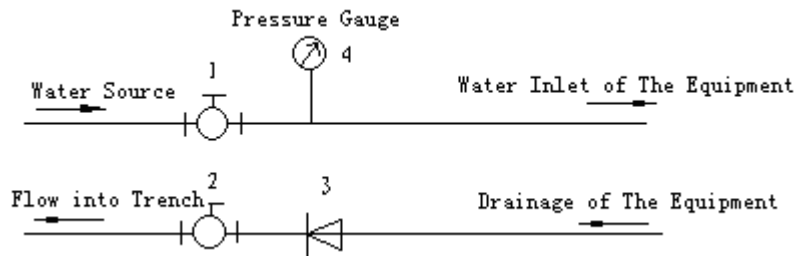

Fig.3
- (1) Put shock pad under the two rotation legs, rotate the support leg after universal wheels leave the ground, put shock pad under the oriented wheel.
- (2) It shall leave some space all around when installing the sterilizer, convenient to operate and maintain; outline dimension of maximum limit is 200×93×182cm, after the steam door is opened.
- (3) Adjust the inner drum level of the equipment through regulating the height of rotating support leg.
- (4) Connect the pipeline of drainage, water inlet and water source to the related ones of the equipment (see Fig. 3), and meanwhile configurate power source according to the requirements.